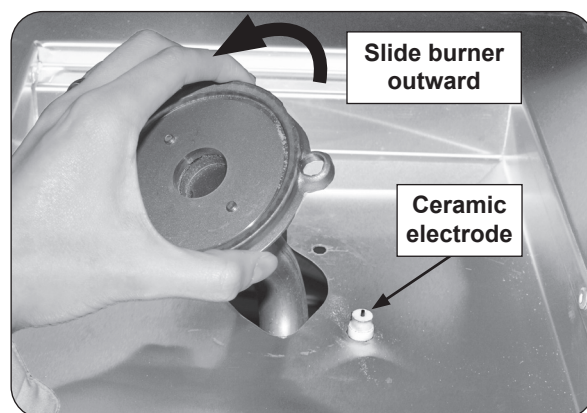

Fig. 33-2 Remove burner
5. Carefully lift the burner up and out, clearing the ceramic electrode (see Fig. 33-2), and pulling the burner tube away from the orifice located on the left side of the unit.